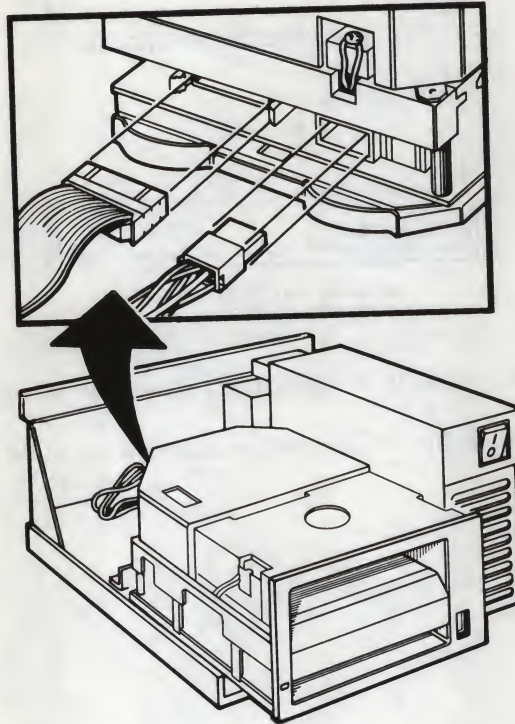

Figure 4-4 Remove the Power Cable and Drive Cables
5. Unplug the 4-wire power cable from the back of the tape drive (Figure 4-4).